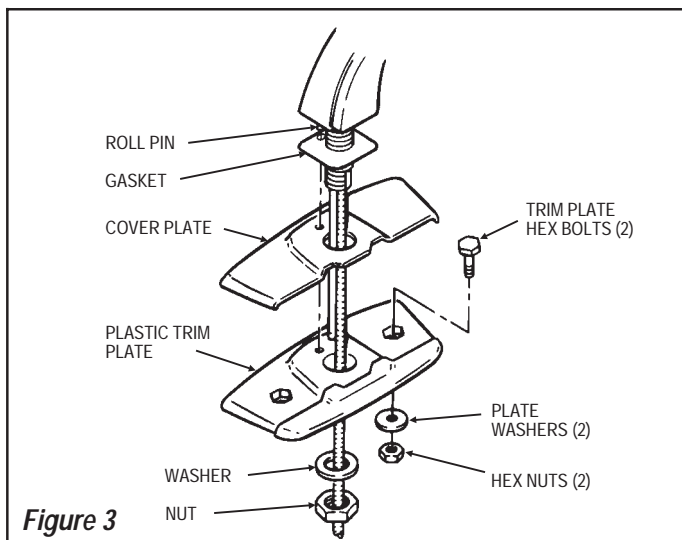

Figure 3
Step 2 — Install Faucet Spout and Trim Plate (Figure 3)